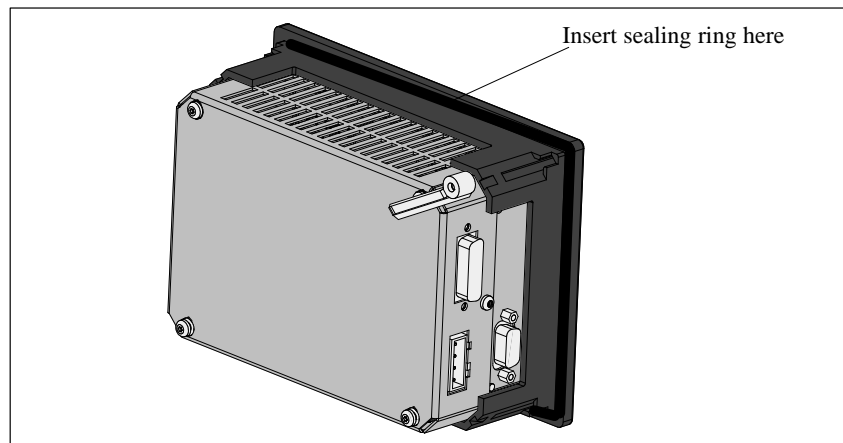

Figure 2-1 Inserting the Sealing Ring
2.	Insert the sealing ring behind the front panel (see Figure 2-1).